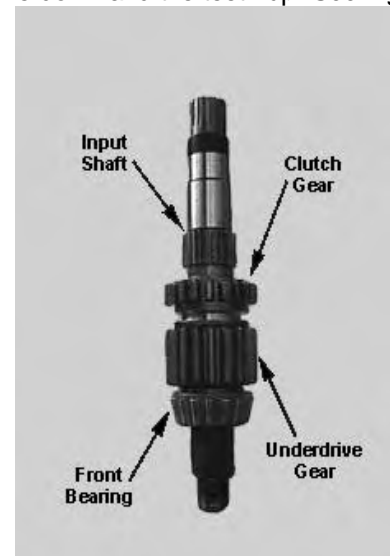

Fig. 34
4. Install the heated front bearing onto input shaft, then turn the shaft over and install the clutch gear with the groove down and the teeth up. See Fig. 34.